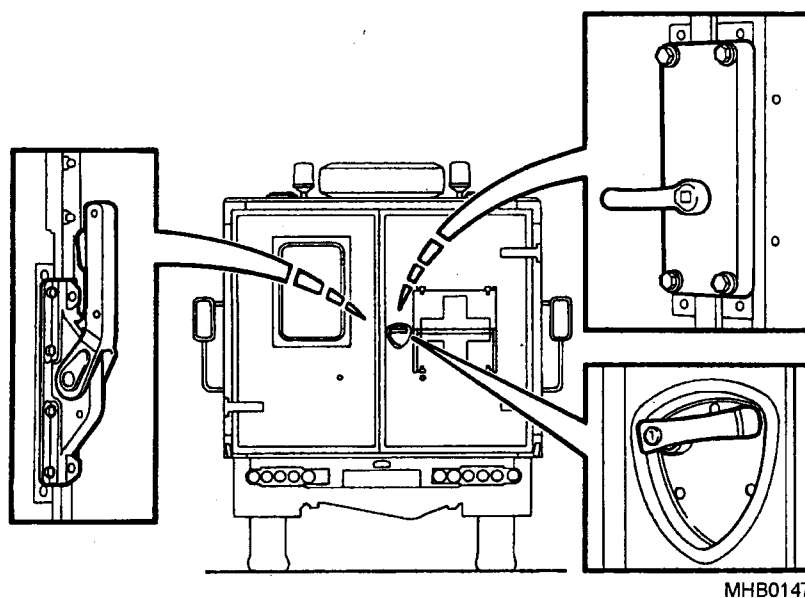

Fig 2 Rear door operation
- 7 The rear doors (Fig 2) can be opened and closed from outside the vehicle or from the ambulance compartment as follows: